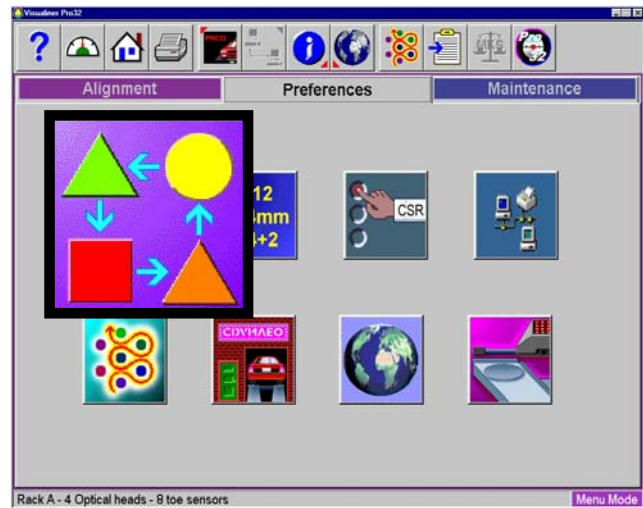

Figure 3-23
2. From the Preference menu select the “USER INTERACTION” icon. (Figure 3-23)